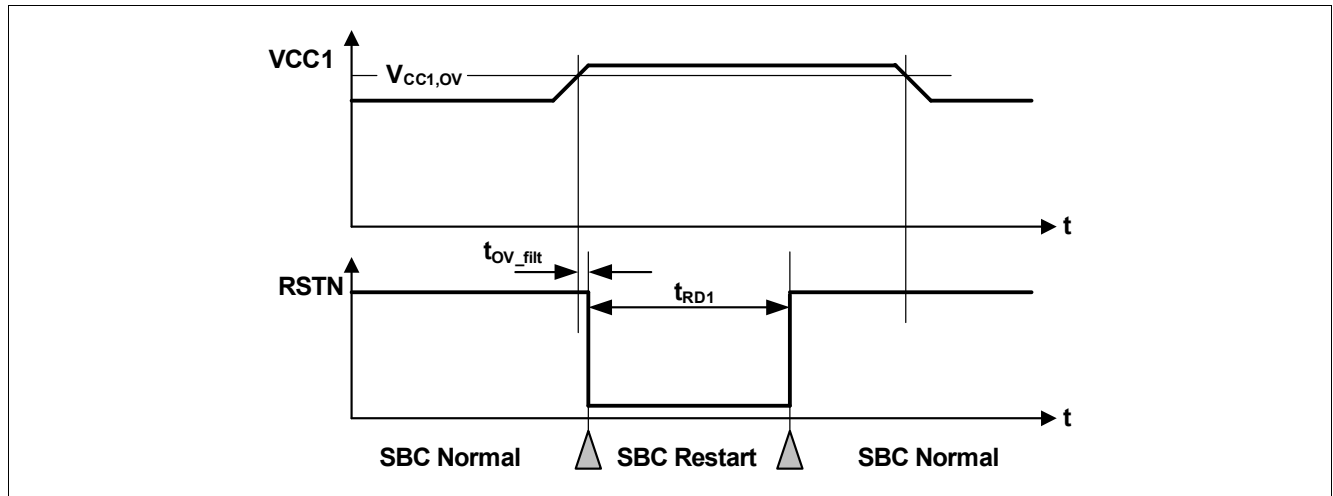

Figure 38 VCC1 Over Voltage Timing Diagram
- If the bit `VCC1_OV_RST` is set and `CFG0_STATE` = '1', then SBC Restart Mode is entered. The FO output is activated. After the reset delay time (t_{RD1}), the SBC Restart Mode is left and SBC Normal Mode is resumed even if the VCC1 over voltage event is still present (see also Figure 38). The `VCC1_OV_RST` bit is cleared automatically;